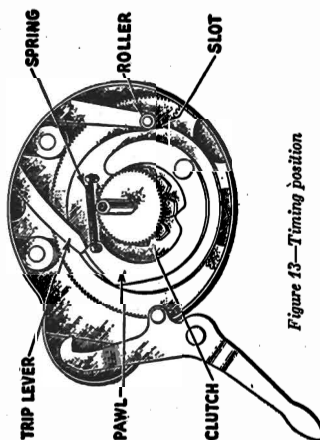

Figure 13—Timing position
- (a) Allow the mechanism to operate until the slide Figure 17 is in its extreme forwarding position. When this setting is reached the straight side of the cam, Figure 17, will be parallel with the side of the slide. Check the position of the trip lever and roller at this time to see that they are approximately as shown in Figure 13. If the various parts are not in their proper relation, the mechanism should be retimed.
- (d) Lower the pawl carrier into mesh with the gears so that the trip lever is touching the end of the pawl as shown in Figure 13, when the cable lever roller is engaged in the slot on the side of the pawl carrier as shown.
(14) REMOVING MOTOR BOARD